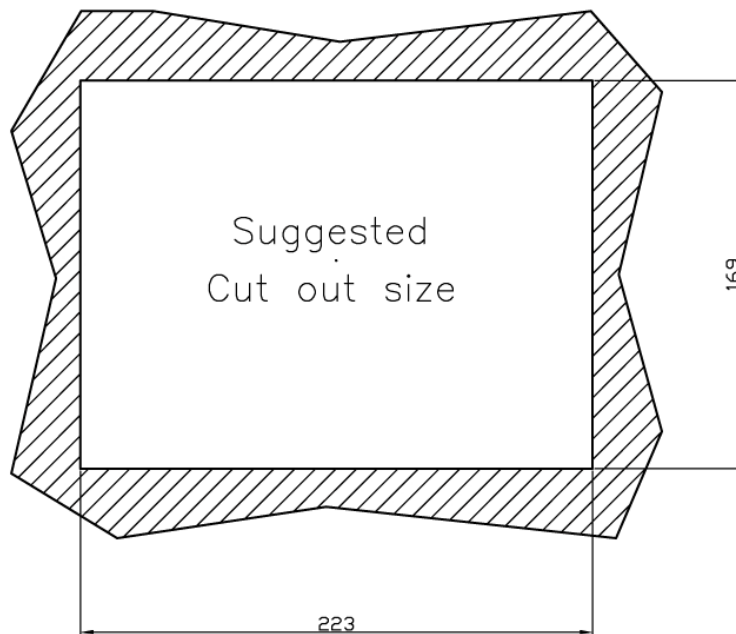

Figure 2-13: AFL-08B-N270 Cutout Dimensions (units in mm)
Step 2: Cut out a section from the panel that corresponds to the rear panel dimensions of the panel PC. Take care that the panel section that is cut out is smaller than the overall size of the metal frame that surrounds the panel PC but just large enough for the rear panel of the panel PC to fit through (**Figure 2-13**).